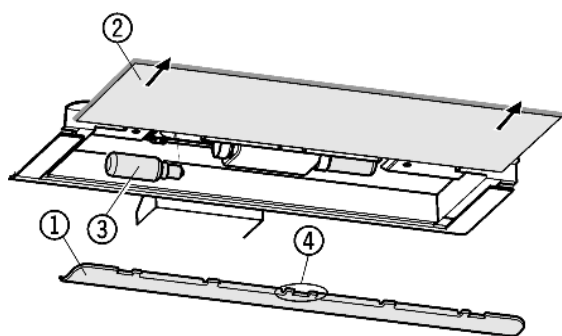

Fig. 20
- ▶ To remove the cover *Fig. 20 (1)*: put your finger behind the cover and disengage it.
- ▶ Pull out the glass shelf *Fig. 20 (2)*.
- ▶ Change the bulb *Fig. 20 (3)*.
- ▶ Attach the cover again, engage it at the right and left and pay attention that the middle hook *Fig. 20 (4)* grips over the glass shelf.